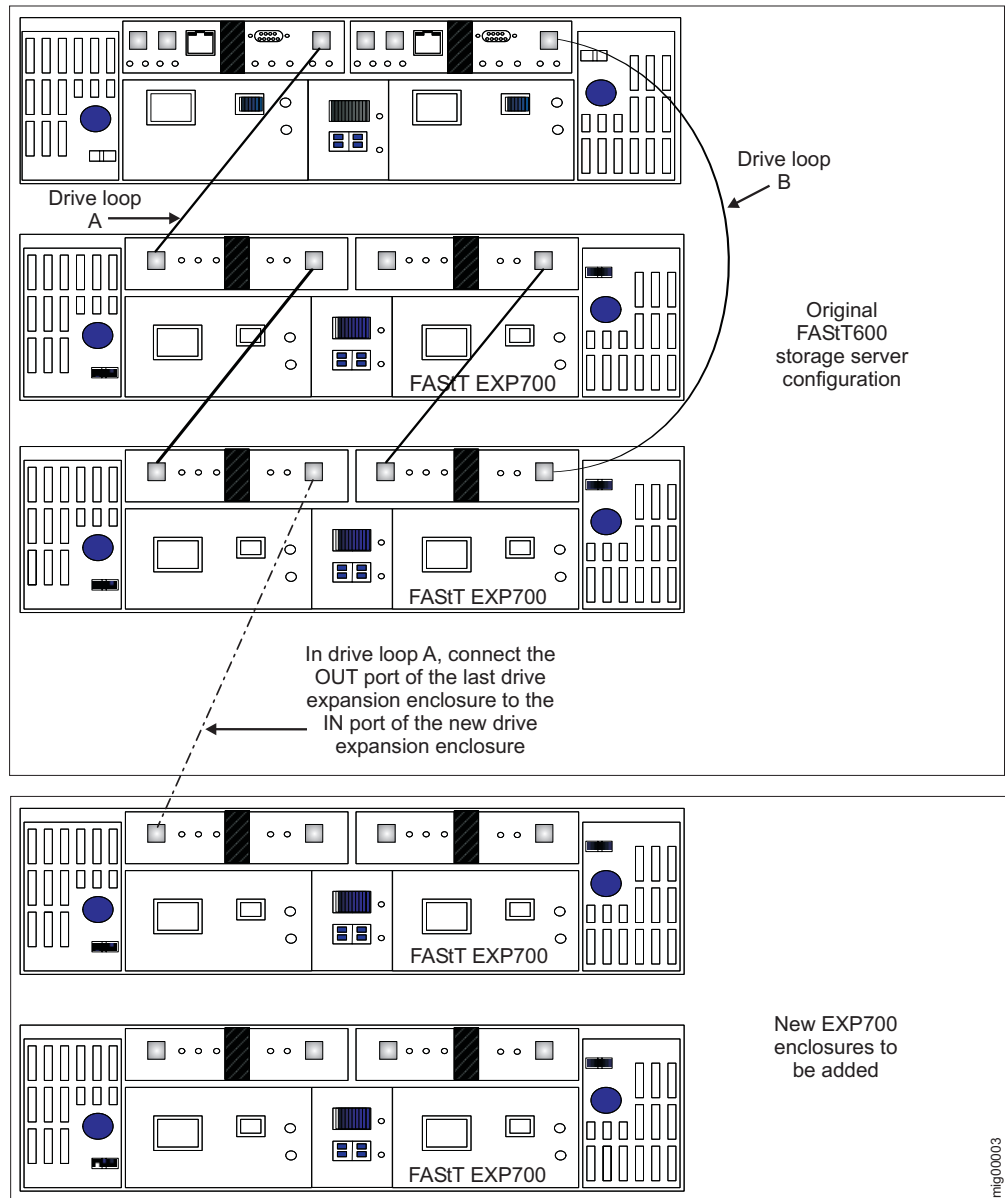
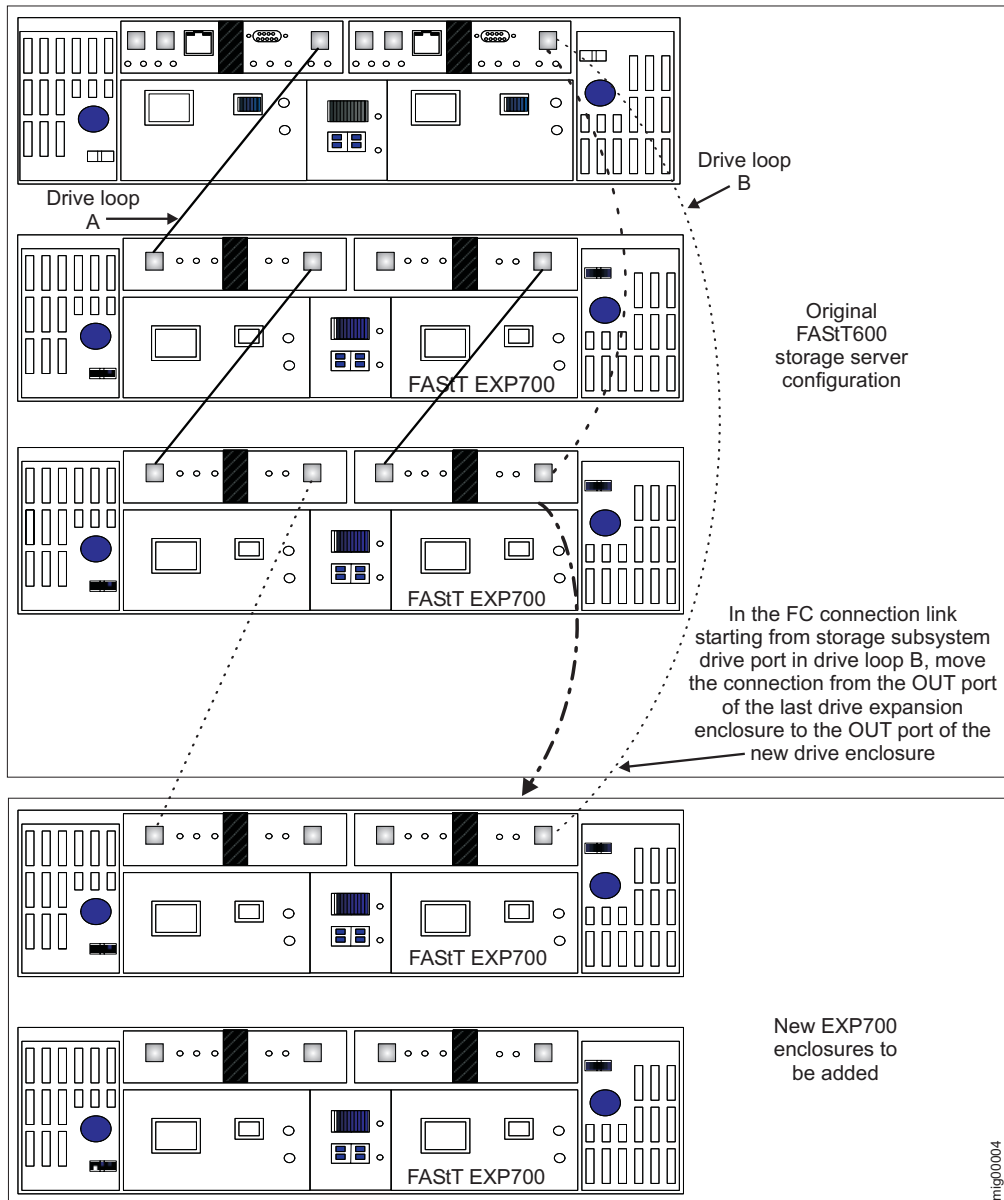
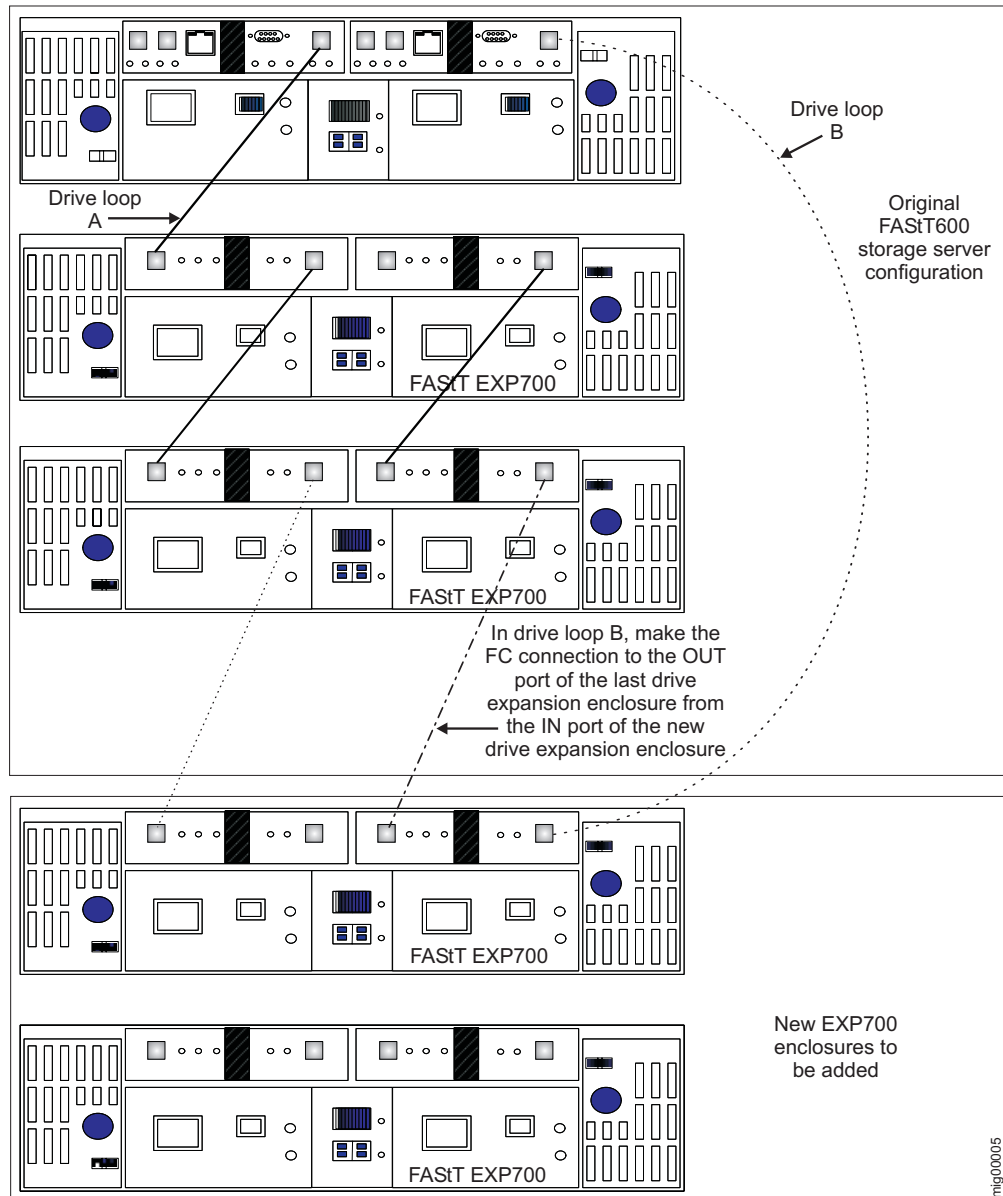

Figure 16. First connection: Cabling a single drive enclosure to a functioning drive loop
Figure 17. Second connection: Cabling a single drive enclosure to a functioning drive loop
Figure 18. Third (final) connection: Cabling a single drive enclosure to a functioning drive loop
The cabling instructions in the steps that follow are based on the cable routing scheme that is documented in *IBM TotalStorage DS4000 Storage Manager installation and support guides*. The cabling instructions illustrated in Figure 16 on page 41, Figure 17 on page 42, and Figure 18 on page 43 describe cabling a DS4000 EXP700 Storage Expansion Enclosure to the redundant drive loop of a functioning DS4300 Storage Server (model 60X or 60U).
- \_\_\_ Step 1. Extend one of the drive loops (that is, drive loop A) in a DS4000 Storage Server redundant drive loop pair by connecting the OUT port of the last storage expansion enclosure to the IN port of the new storage expansion enclosure as shown in Figure 16 on page 41.
- \_\_\_ Step 4. In the other drive loop (that is, drive loop B) in a DS4000 Storage Server redundant drive loop pair, remove the connection from the storage subsystem drive loop port to the OUT port of the last storage expansion enclosure and connect it to the OUT port of the new drive enclosure as shown in Figure 17 on page 42.
- \_\_\_ Step 6. In drive loop B, cable the new drive enclosure's IN port to the OUT port of the last enclosure in the already functioning storage expansion enclosure drive loop as shown in Figure 18 on page 43.